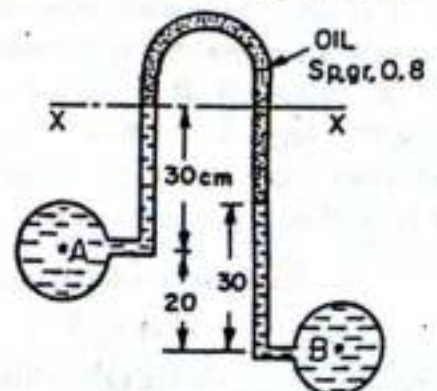

Fig. 2.23
**Problem 2.19.** In Fig. 2.23, an inverted differential manometer is connected to two pipes A and B which convey water. The fluid in manometer is oil of sp. gr. 0.8. For the manometer readings shown in the figure, find the pressure difference between A and B.